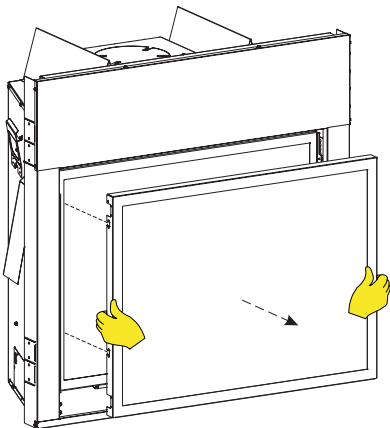

Figure 77
- Check the barrier screen for fit and structural integrity. **See Figure 77.**